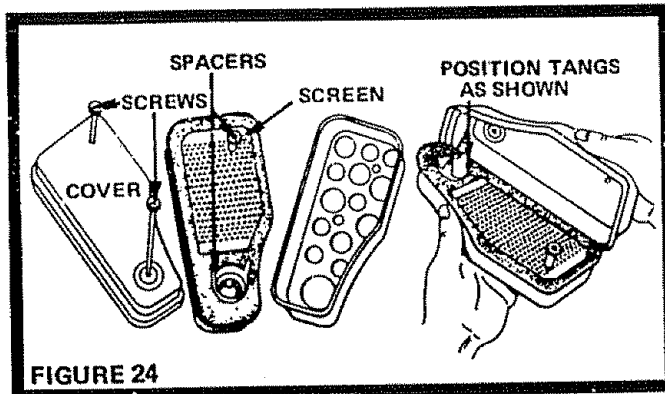

FIGURE 24
**1. CLEAN AIR CLEANER ELEMENT (FIG. 24)**